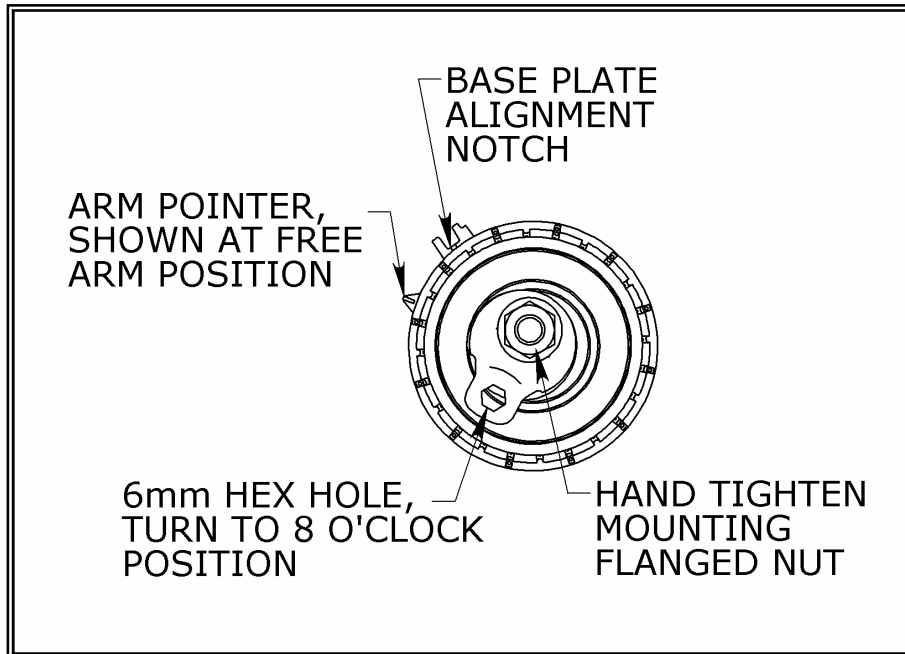

Figure 4: Timing Belt Tensioner shown in the initial setup
6. Rotate the installation shaft on the tensioner using a 6mm Hex Allen Key to the "**8 O'clock position**", see Fig. 4. This will maximize the belt clearance for ease of installation. Hand tighten (lightly) the Flanged Mounting Nut on the stud.